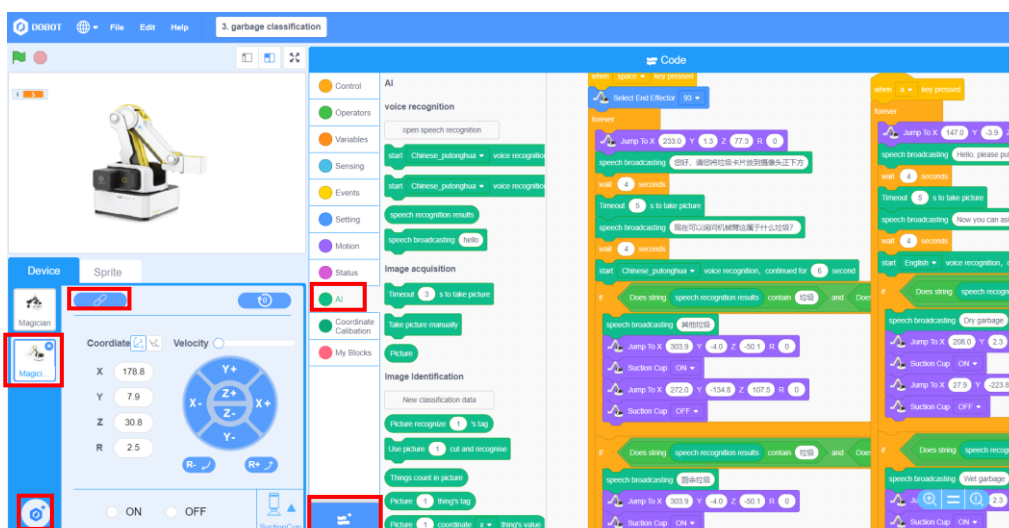

Figure 3.1 Software settings
Step 1: Open the DobotScratch software, select the device Magician Lite and connect it, and add the AI Extension module, as shown in Figure 3.1.